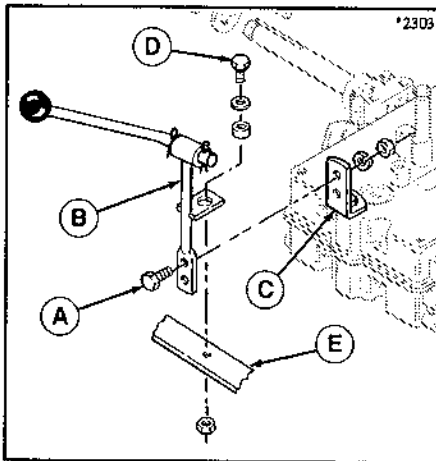

Figure 20.
3. Remove the two capscrews (A, figure 20), lockwashers, and nuts securing the gear shift lever (B) to transmission bracket (C).
4. Open the seat deck and remove capscrew (D), flat washer, spacer and nut securing gear shift (B) to frame (E).